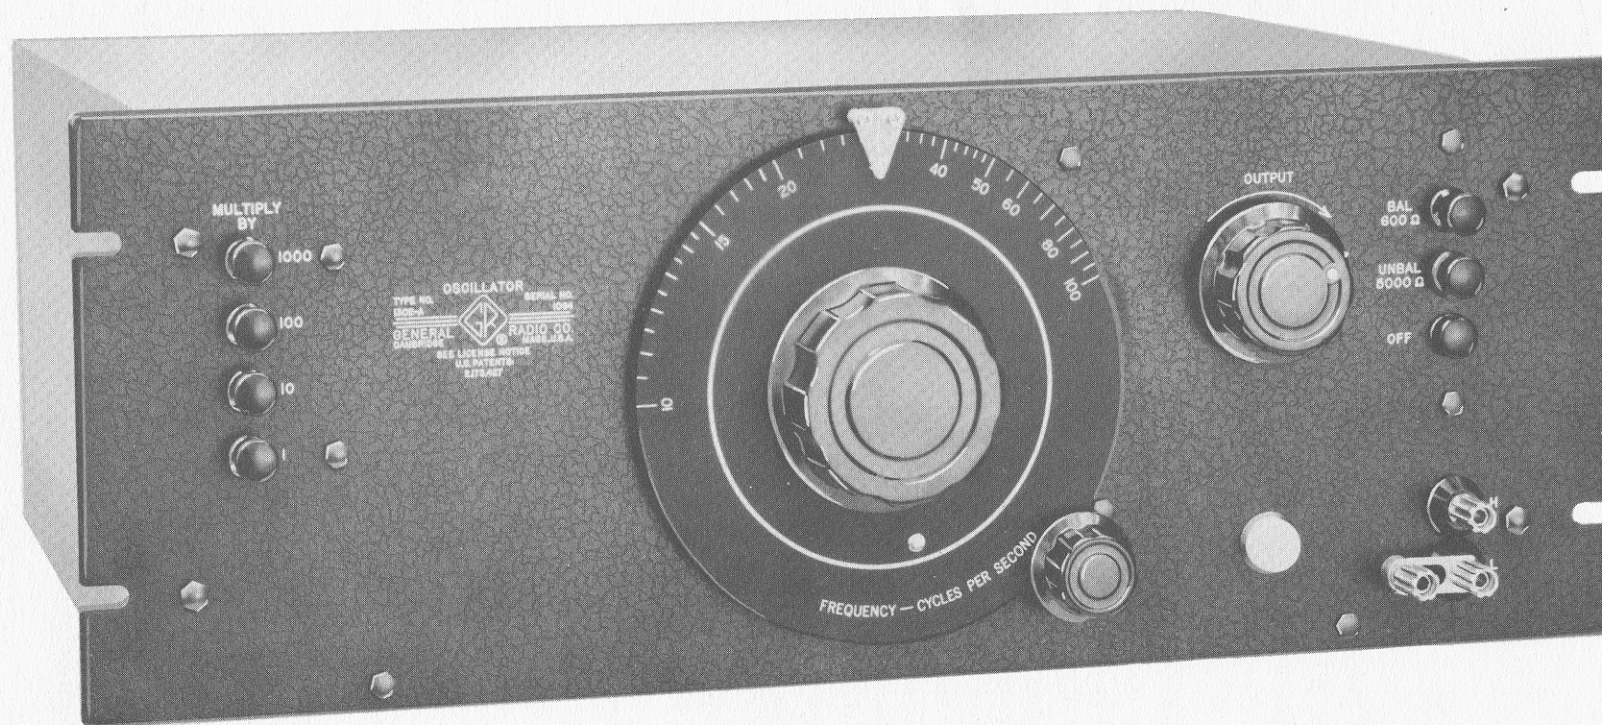

Figure 1. Type 1302-A Oscillator.
1.1 GENERAL. The Type 1302-A Oscillator (Figure 1) is a versatile power source for bridge and other measurement devices. It has a wide frequency range and excellent amplitude stability.